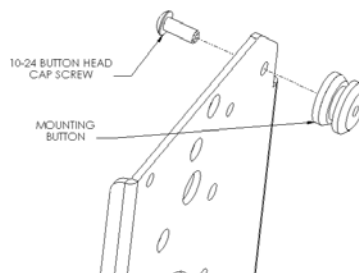
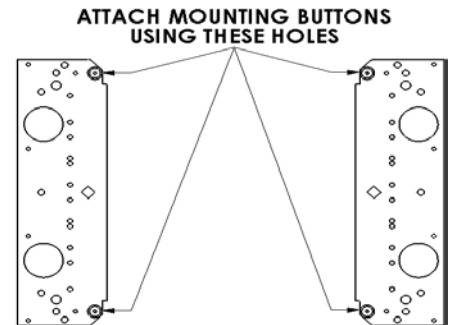

Figure 2
Figure 3
2. Using a 10-24 button head cap screw inserted from back side of bracket through holes, secure mounting button, with chamfered hole of mounting button (larger surface) facing bracket, to bracket (four places) (see Figure 2 & Figure 3).